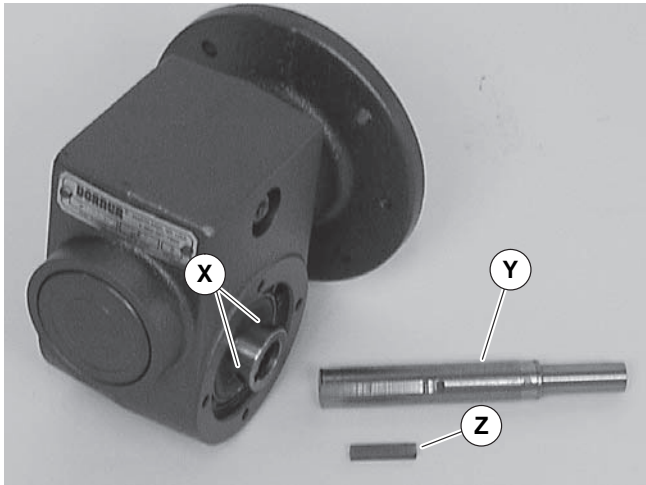

Figure 20
9. Loosen six (6) set screws (Figure 20, item X). Remove drive shaft (Y) and key (Z).
11. Replace the original shaft components into new gear reducer (see Figure 20).